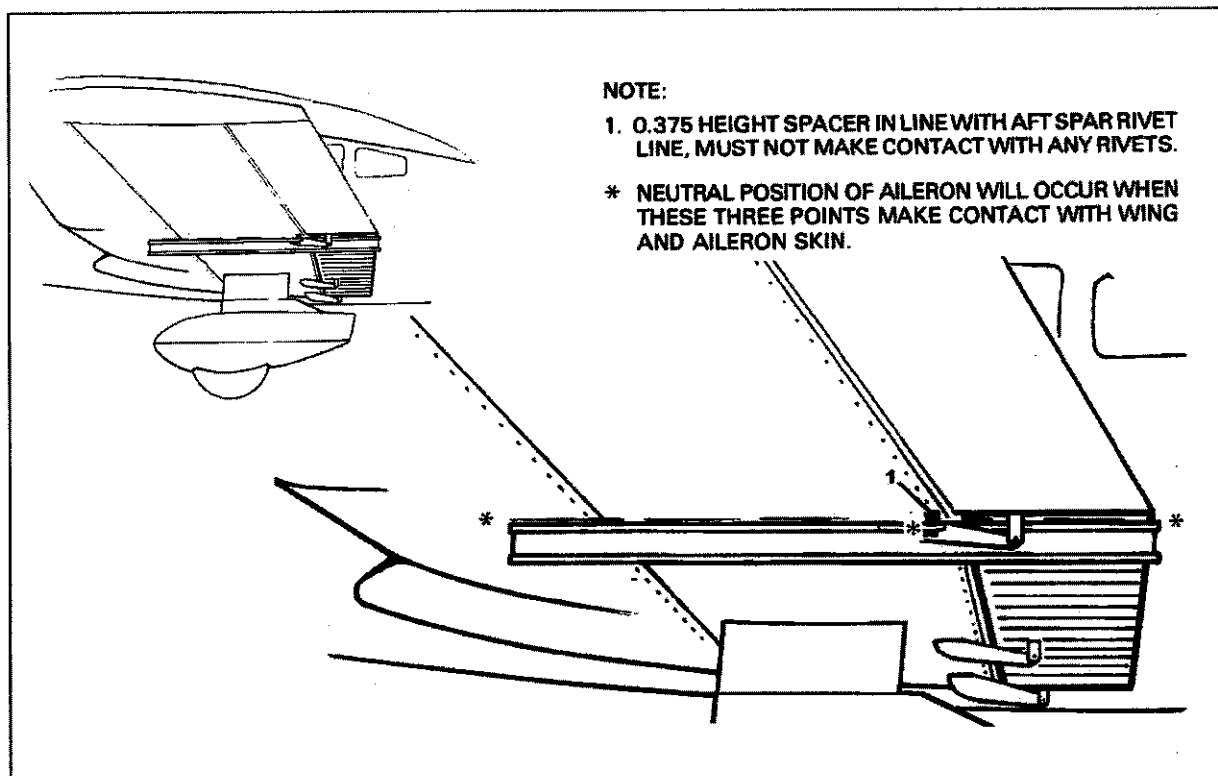

Figure 27-29. Flap Rigging Tool
- (1) Place flap rigging tool per Figure 27-29 against underside of wing and flap, close as possible to outboard end of flap (Do not contact any rivets.)